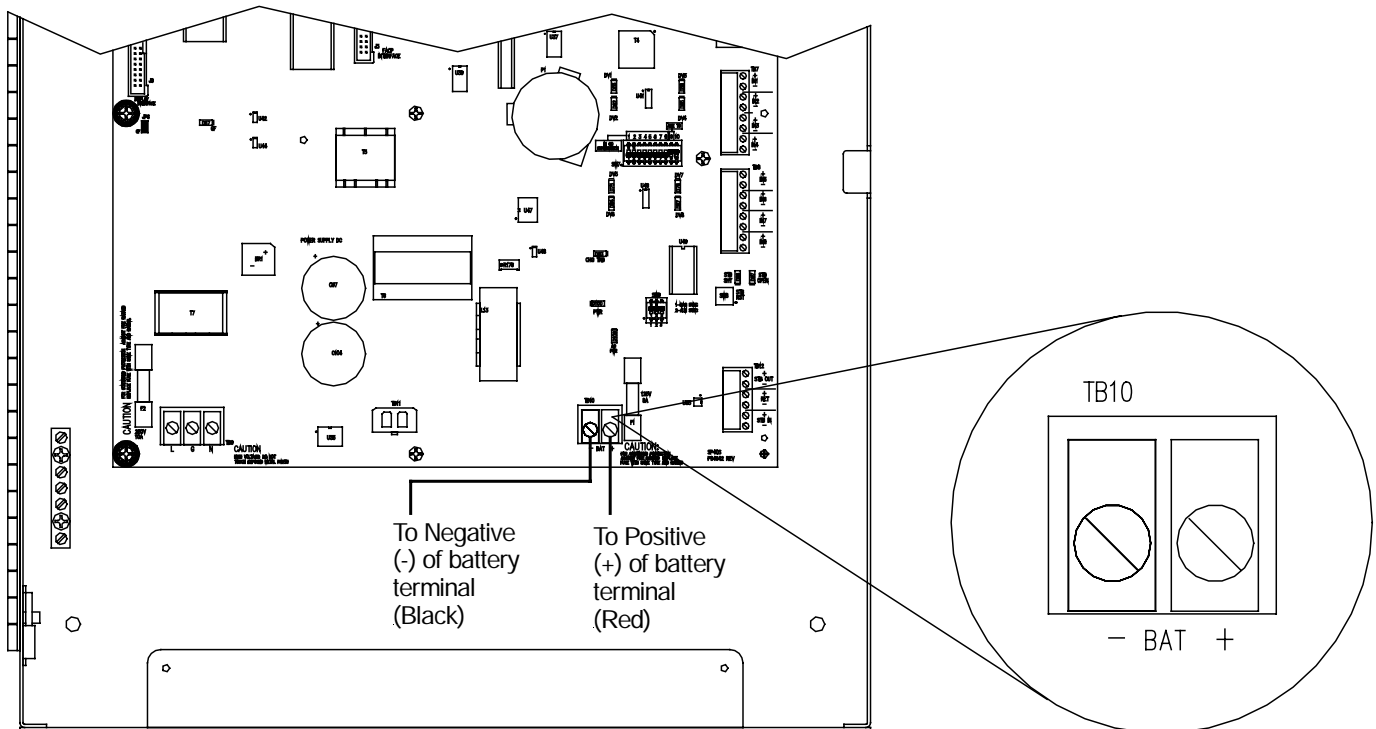

Figure 4-14 Battery Wire Connections
1. Connect the supplied red battery wire to the (+) terminal and the supplied black battery wire to the (-) terminal of TB10 (see Figure 4-14).